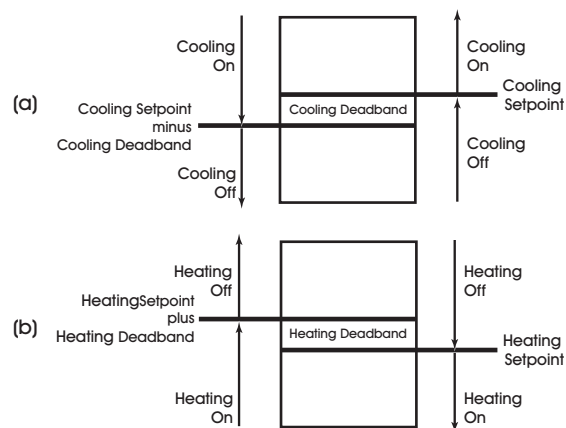

Figure 7-14: Deadband for a Normal Acting (a) and Reverse Acting (b) Thermostatic Control Loop
The **(DB) Desired Control DeadBand** attribute specifies a control deadband for the thermostatic control loop. For a normal action control, this specifies the amount by which the temperature must drop below the cooling setpoint before the output is de-energized (**(SP) Loop Setpoint-(DB) Desired Control DeadBand**). For a reverse action control, this specifies the amount by which the temperature must rise above the heating setpoint before the output is de-energized (**(SP) Loop Setpoint+(DB) Desired Control DeadBand**). This response is illustrated in Figure 7-14.